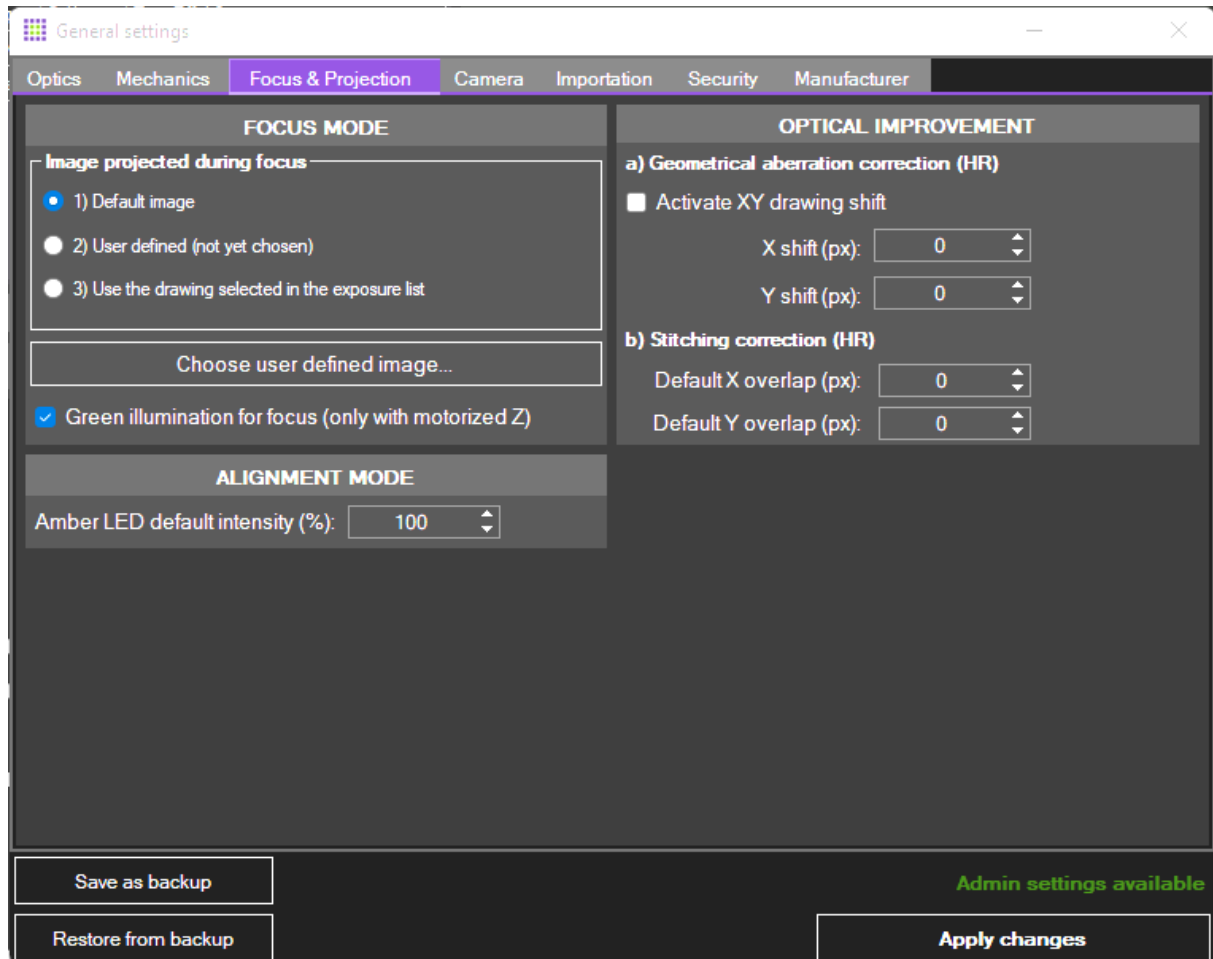

Figure 72 – Settings: focus and projection options
**Focus mode.** Editable only in administrator mode. In the tab **Focus & Projection**, the drawing used during the focusing step can be set (Figure 72):